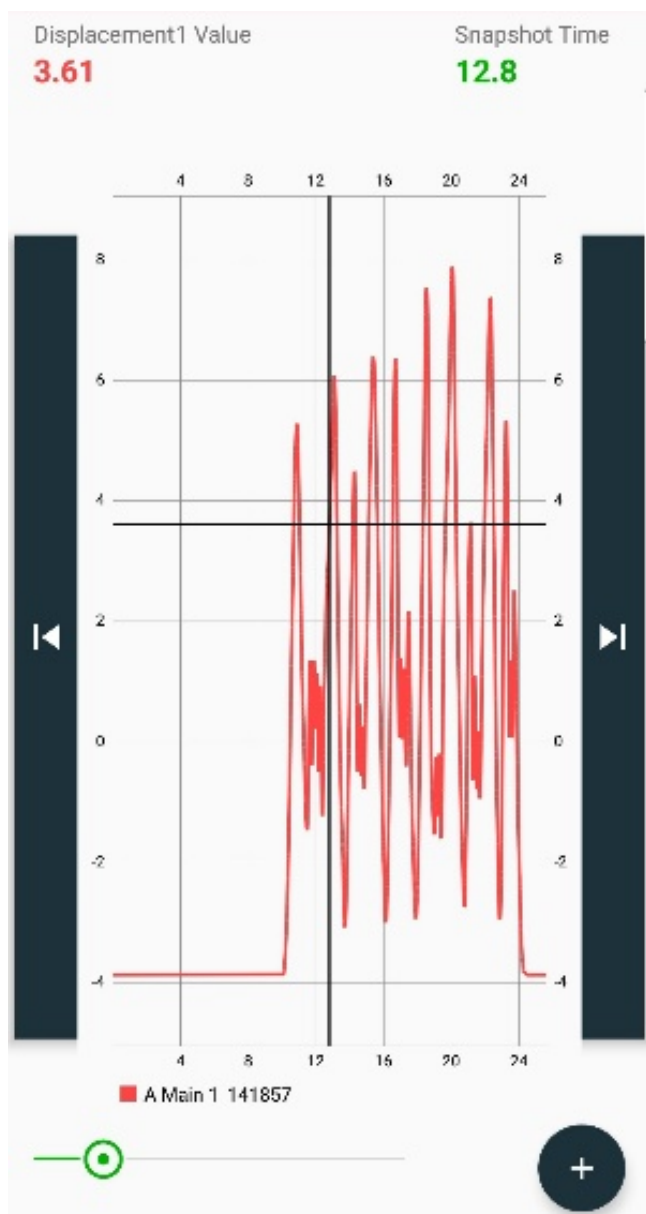

Figure 30: Data displacement chart
4. Upon selecting a file, a displacement chart of the data collected is presented, shown in Figure 30.